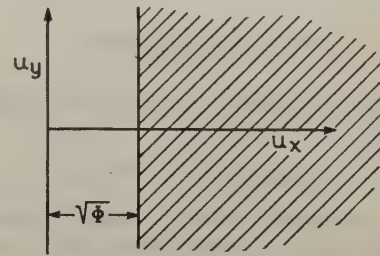

Fig. 3—Parallel beam.
This is illustrated in Fig. 3. In using (13) and (15) in the parallel-beam case we must integrate over only those portions of S which lie beyond this plane.